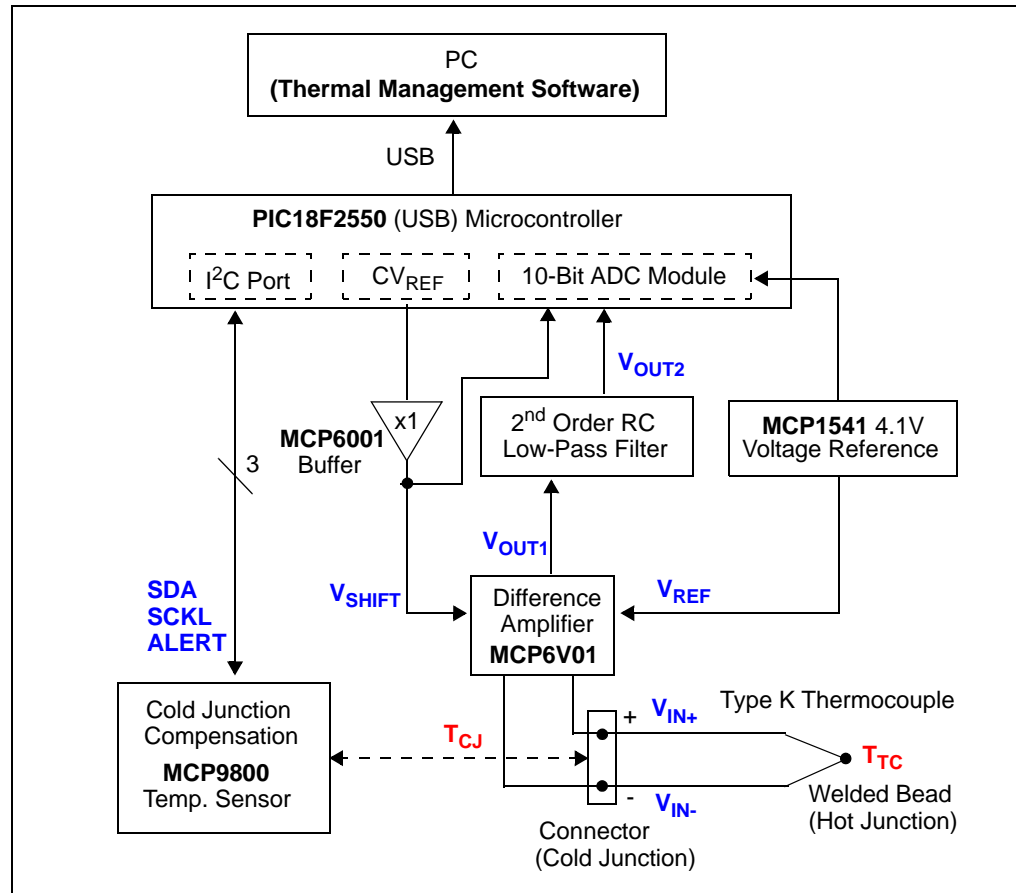

FIGURE 1-2: Function Block Diagram of the MCP6V01 Thermocouple Auto-Zeroed Reference Design.
Figure 1-2 shows the function block diagram of the MCP6V01 Thermocouple Auto-Zeroed Reference Design.
- The Personal Computer (PC) shown in Figure 1-2 needs to run on Windows® 98 SE or later. It provides a convenient interface for the user, communicates with the boards, and provides power through the USB connection.